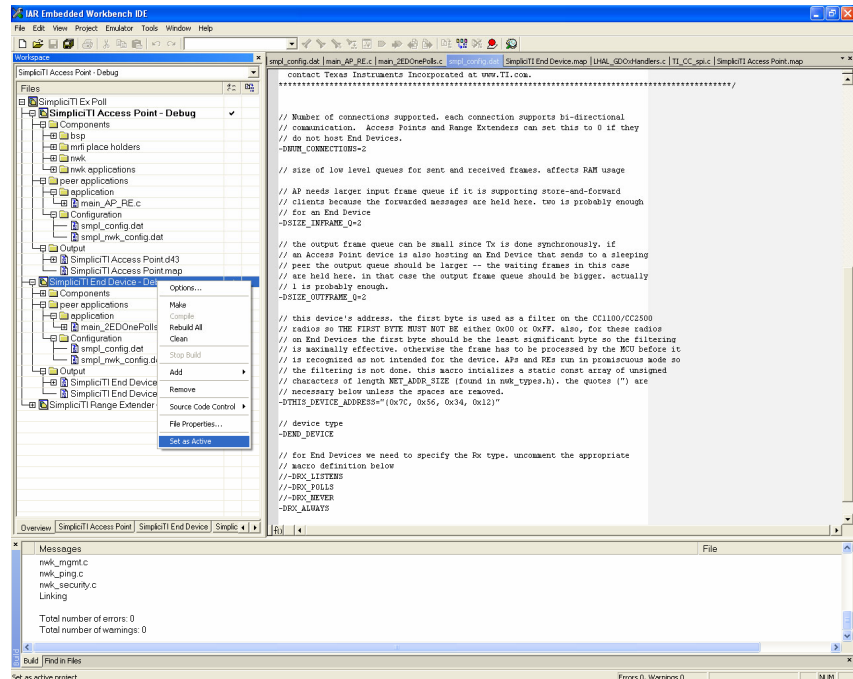

Figure 7. IAR Embedded Workbench KickStart Workspace
- 3a. Right click on **Access Point** project in the workspace and click **Set as Active** as shown in Figure 7.